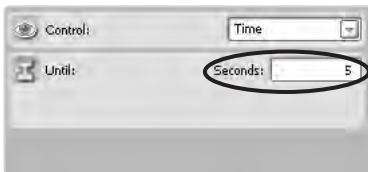

Figure 2-13: Waiting for five seconds
2. By default this block pauses for one second. To have a little more time to read the display, change the Until value from 1 to **5**. This will make the program wait five seconds before ending. Figure 2-13 shows the Configuration Panel with the change.